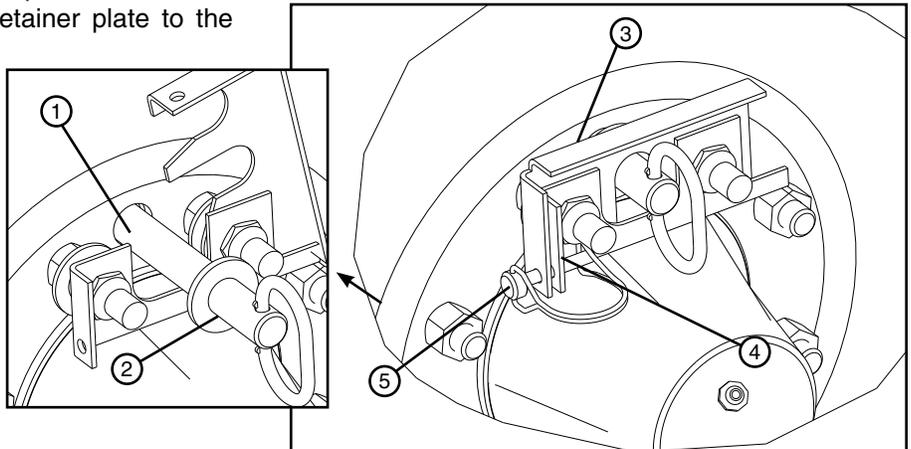

Figure 39-2 1. Hub Torque Pin Receiver 4. Retainer Clip
- Rotate the tire until the hole in the hub torque pin receiver is aligned with the hole in the axle torque arm. Install the torque pin and close the retainer plate. Secure the retainer plate to the retainer clip with the lynch pin. See Figure 39-2.